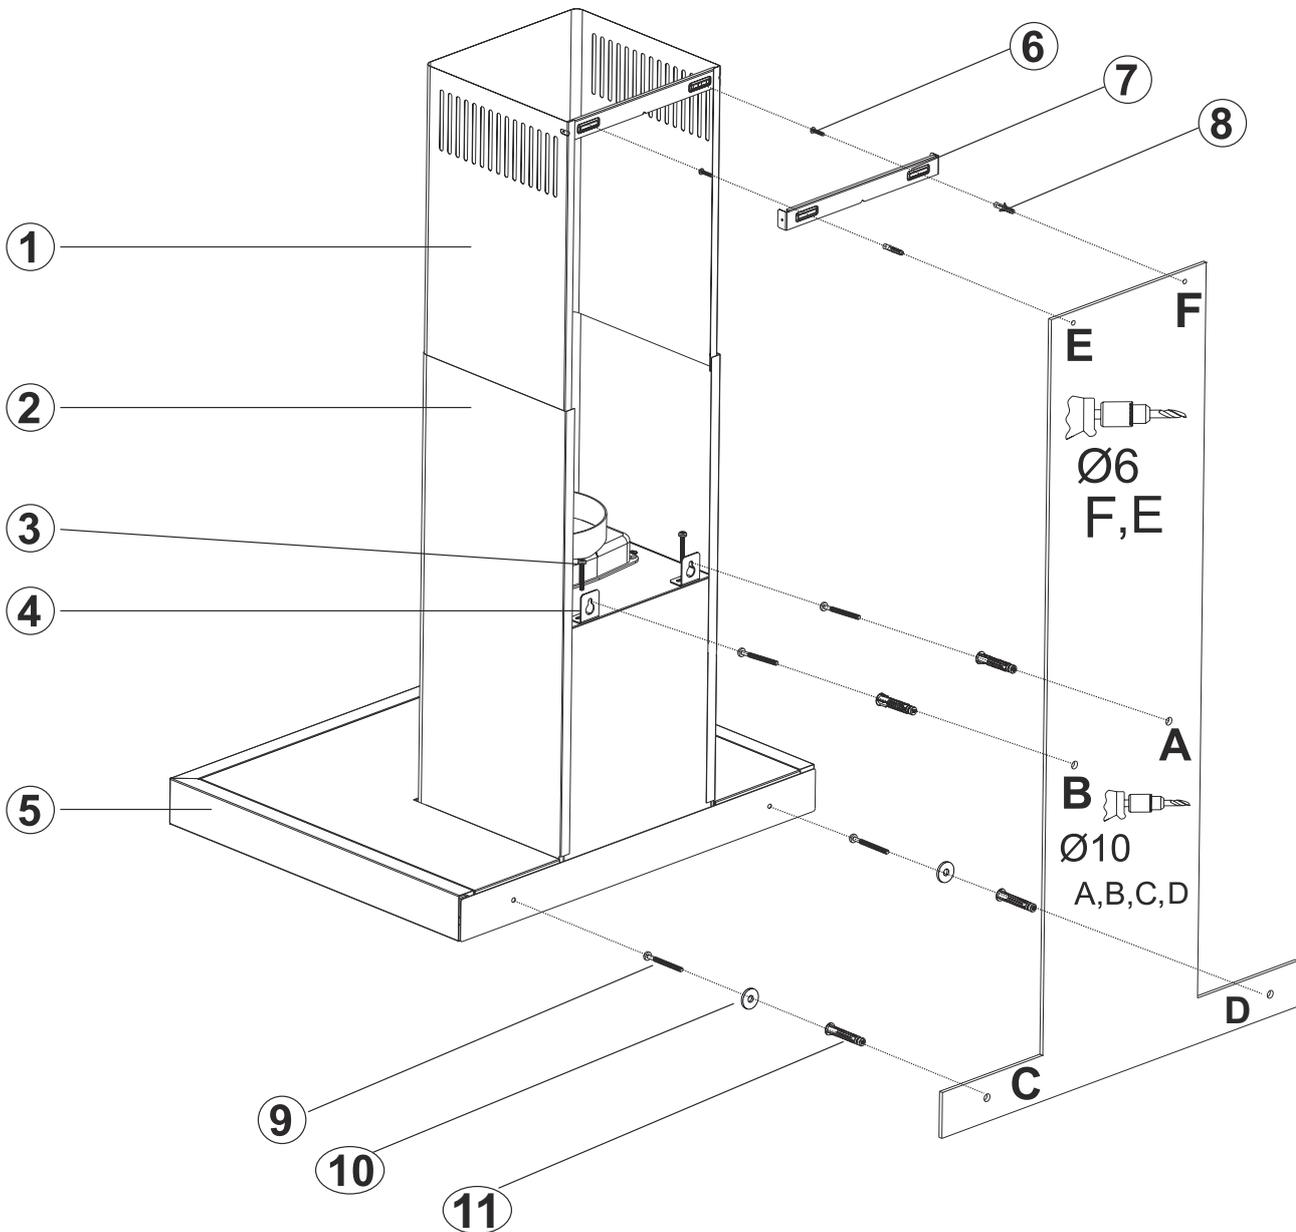

Fig. 16
2. ➤ Affix the assembly pattern on the wall at the specified height (See the minimum and maximum distances intended for the worktop, in the assembly pattern) and drill holes A, B, C and D with the dimensions specified in the template (Fig. 16).
3. ➤ Insert \varnothing 10mm wall plugs into the holes drilled as A, B, C, D, and screw down the 5.5 x 60 screws (9) at the points A + B, in such a way as to remain 5mm space between the screw head and the wall (Fig. 16).
4. ➤ Affix the hanging plates of the cooker hood on the body of the cooker hood with M5x35 bolt (Fig. 16).